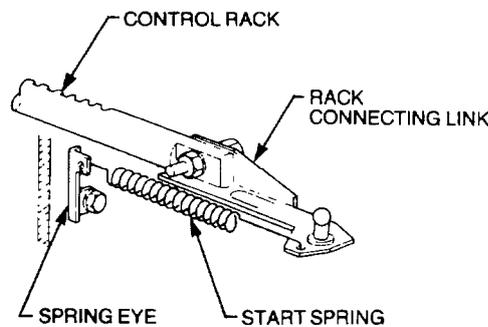

Figure 30 Connecting Link and Start Spring Location
68. The connecting link, which has a ball joint welded to it, is secured to the end of the injection pump control rack by a bolt; nut and washer (refer to Figure 30). The start spring is connected to the connecting link and to the spring eye, which is bolted to the governor housing. The spring always works to pull the control rack into the fuel increase direction.